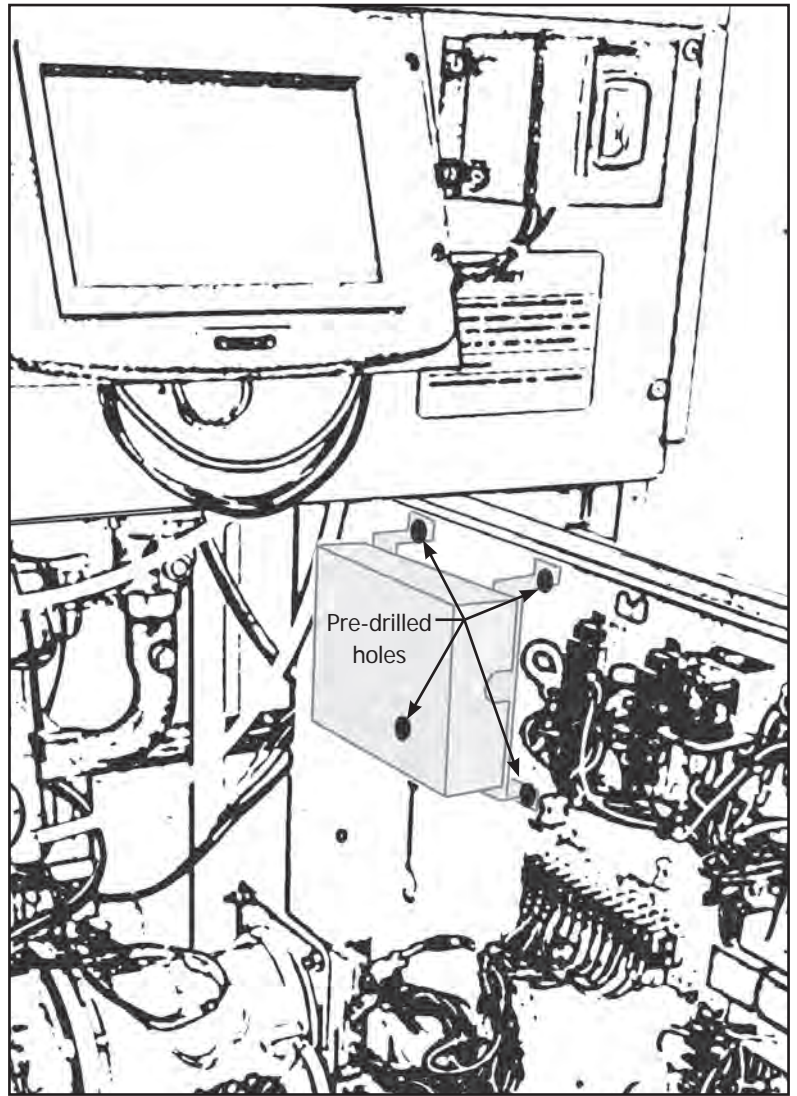

Figure 1
- Mount the VARI-PRIME control box at the top left corner of the control panel as shown in Photo 1 and Figure 1. Pre-drilled holes mark the mounting location.